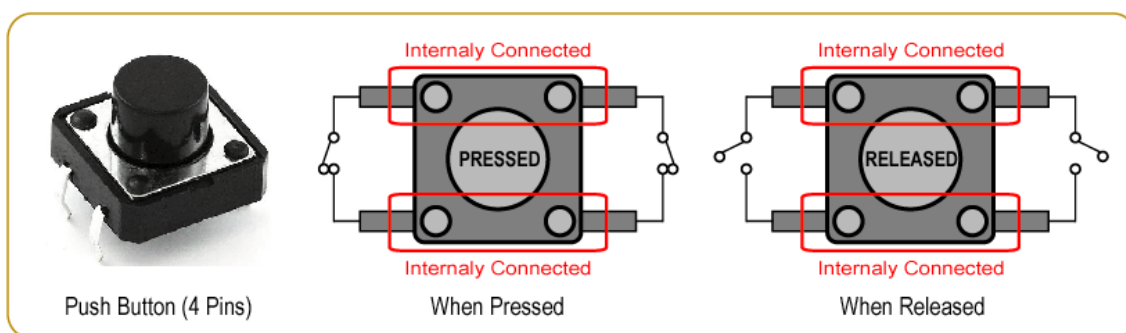

Figure 2.5: Push button operating principle. Source: <https://gmostofabd.github.io/8051-Push-Button/>.
- **Button** - is an element that closes the circuit when the button is pressed. When the button is not pressed, the circuit is open. The construction of the button is shown in Fig. 2.5.